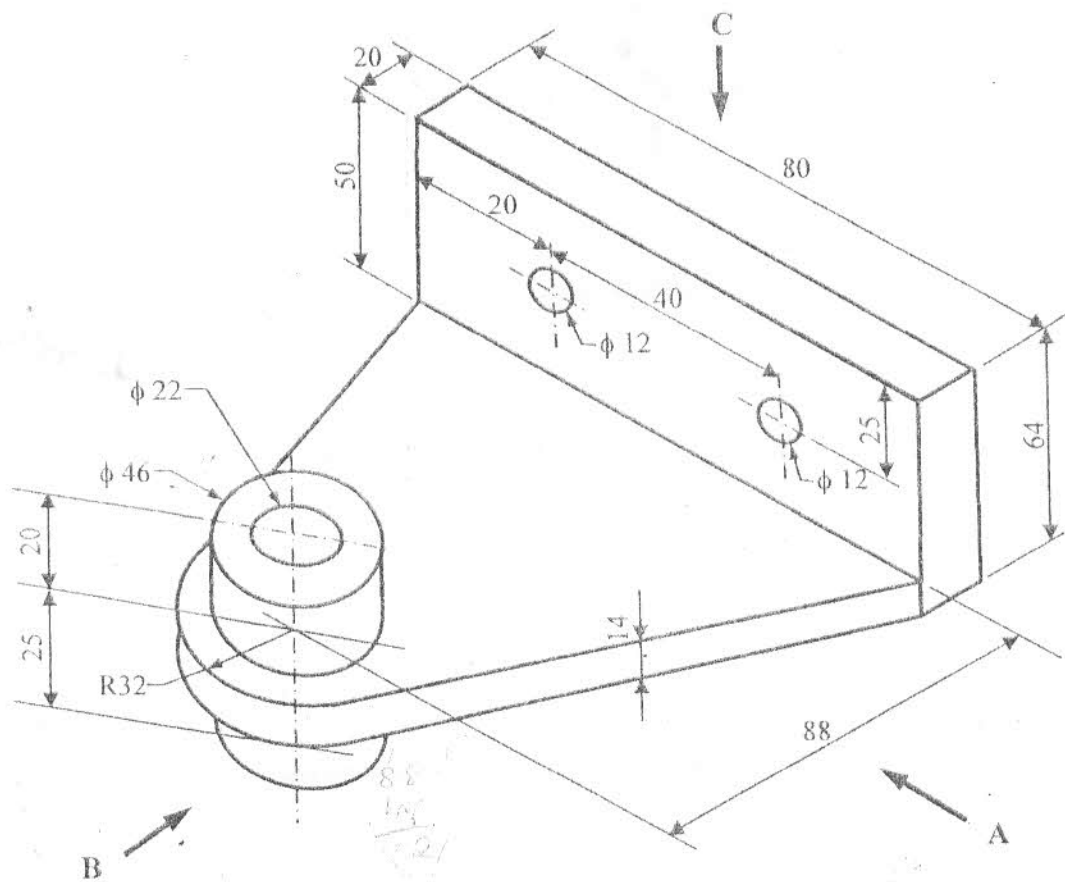

Fig. 1
6. Figure 1 shows a bracket. Draw in first angle projection the following: